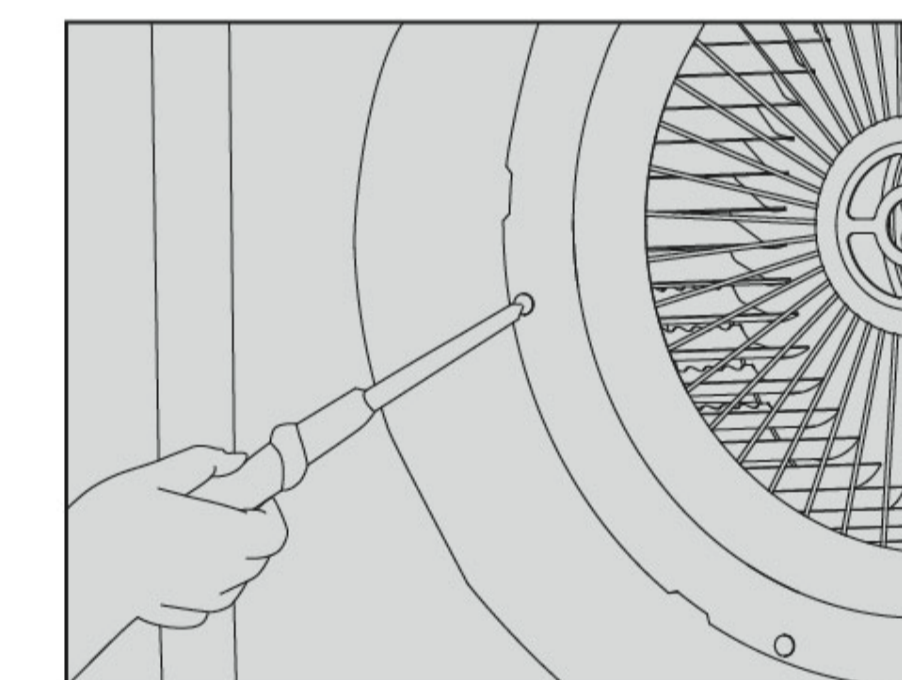
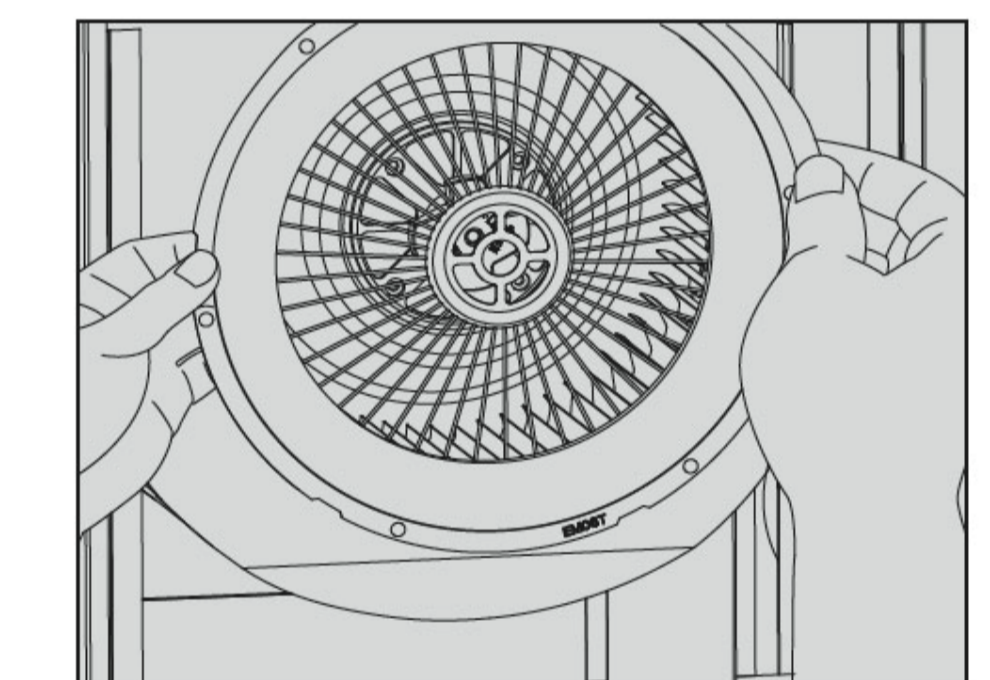

Fig.10
Fig.11
5. Unscrew the set screws of the air intake washer(Fig.10), and disassemble the washer; (Fig.11)